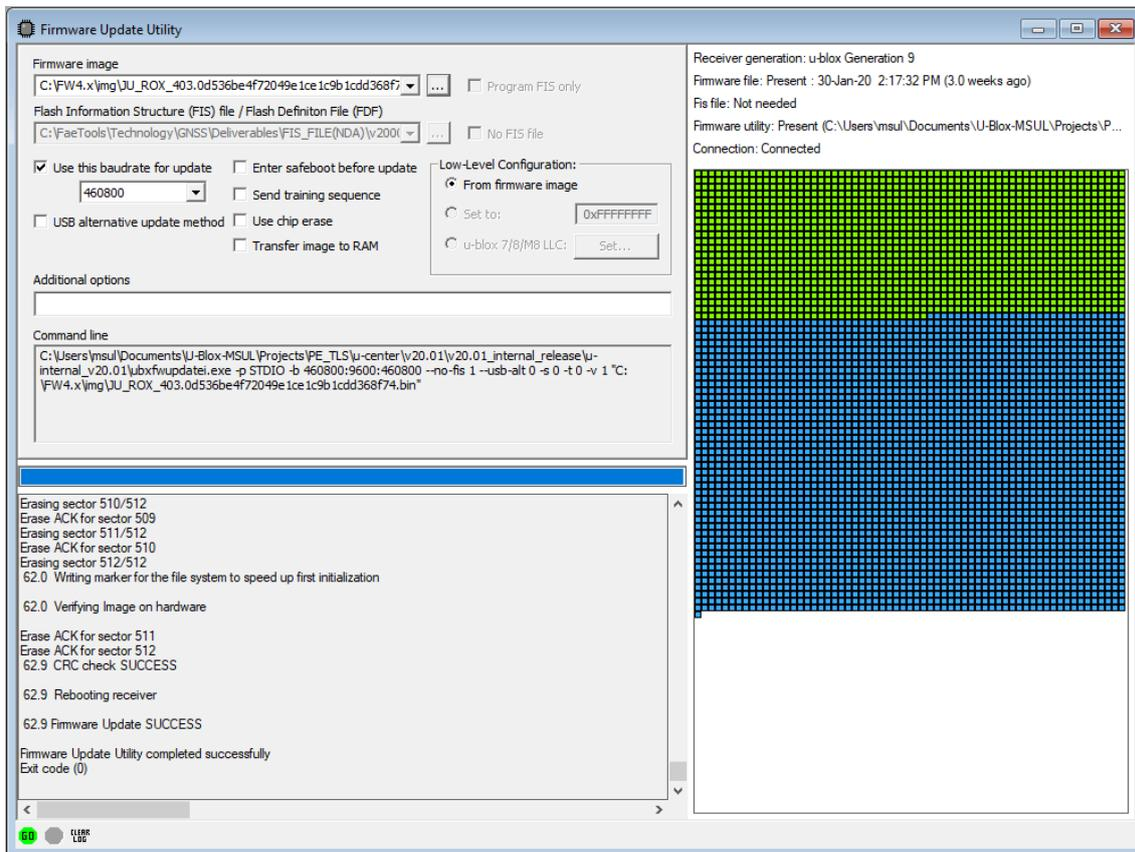

Figure 5: Firmware update tool
1. Select **Tools > Firmware Update...**. The firmware update window will appear as shown in Figure 5.